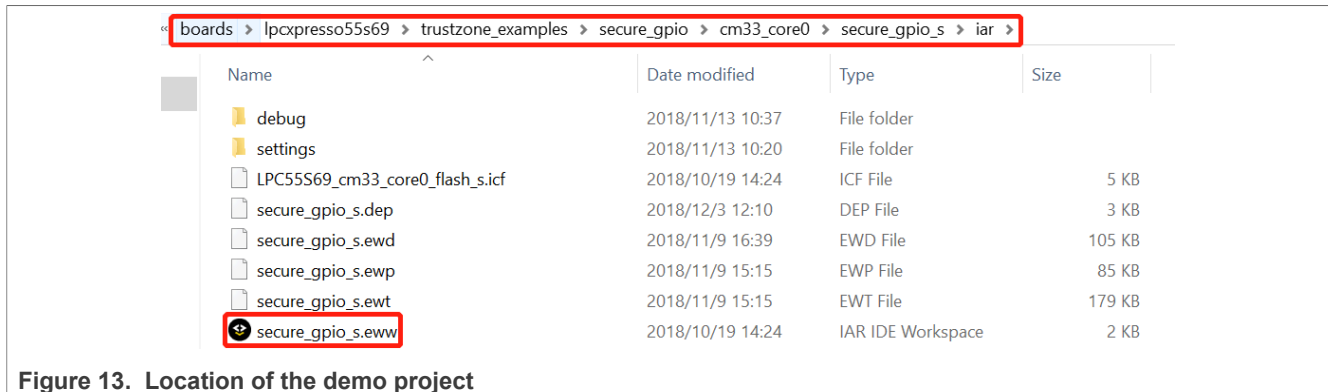

Figure 13. Location of the demo project
- Open the `secure_gpio_s` project located in the path, as shown in Figure 13.